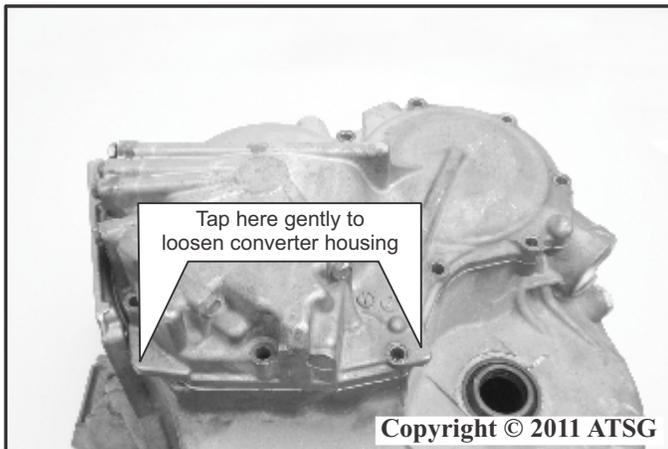

Figure 52
78. Using a soft faced hammer or plastic mallet gently tap and loosen the transmission rear case cover as shown in Figure 52.